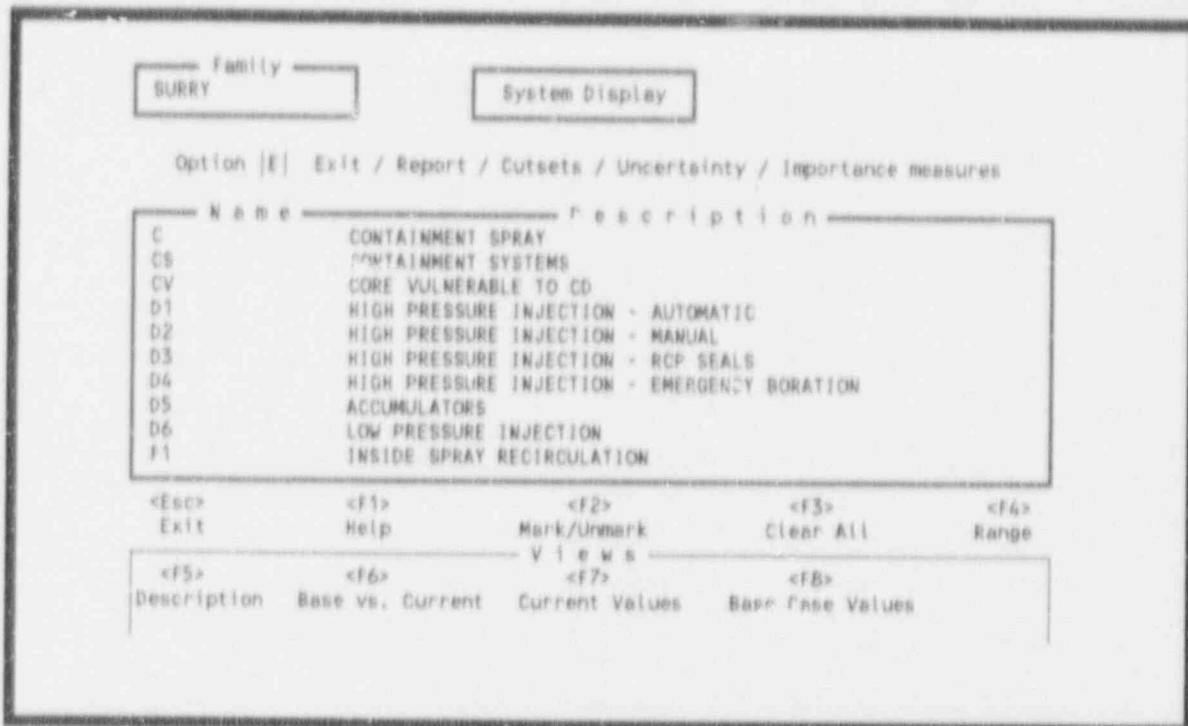

Figure 48. System analysis results display.
To display the results of your system analysis, highlight Display Results or type <D> on the System Analysis screen and press <Enter>. The System Display screen will be displayed showing a list of the systems contained in the data base (Figure 48). The following options are available: Exit, Report, Cutsets, Uncertainty, and Importance Measures.
- <F5> Displays a list showing name and description (default view as shown in Figure 48).